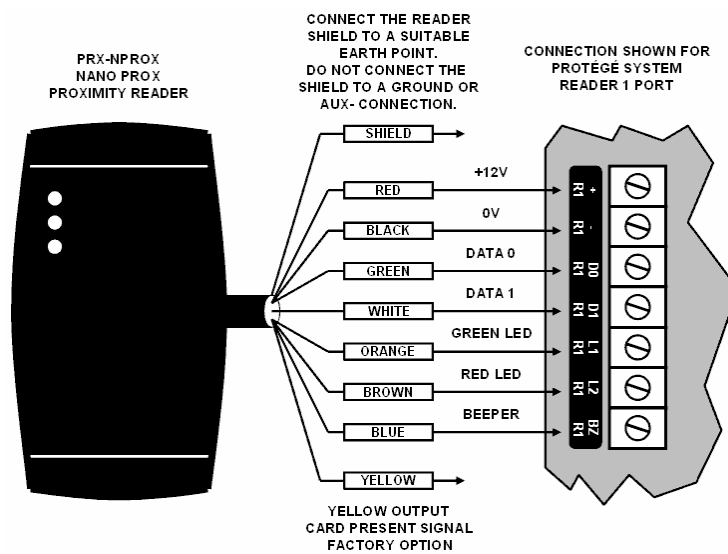
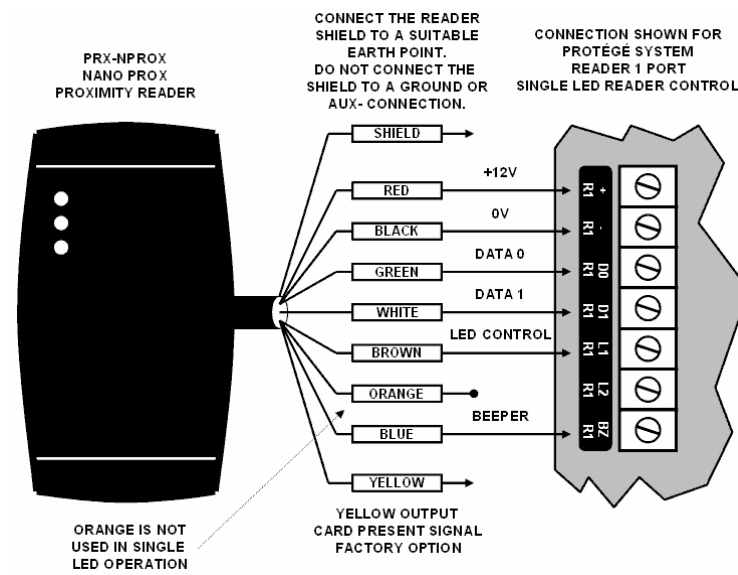

Figure 1 - Dual LED Connection
Figure 2 - Single LED Connection
Using the recommended cables listed in the technical specifications in section 7, splice these cables together with the pigtail of the reader and seal the splice. Route the cable from the reader to the host controller. Connect the cables as shown in Figure 1 for Dual LED Operation or Figure 2 for Single LED Operation.
**Do not connect the shield wires together at the reader cable splice. With the shield wire already terminated at the reader terminate the shield at the controller. For more information refer to Figure 1 and Figure 2.**
Button input wiring configuration is shown in Figure 2. For programming options refer to the Protégé System Manual.
Connect a normally open button or switch as shown in figure 2 and complete the programming within the Protégé Integrated System for the functionality required.